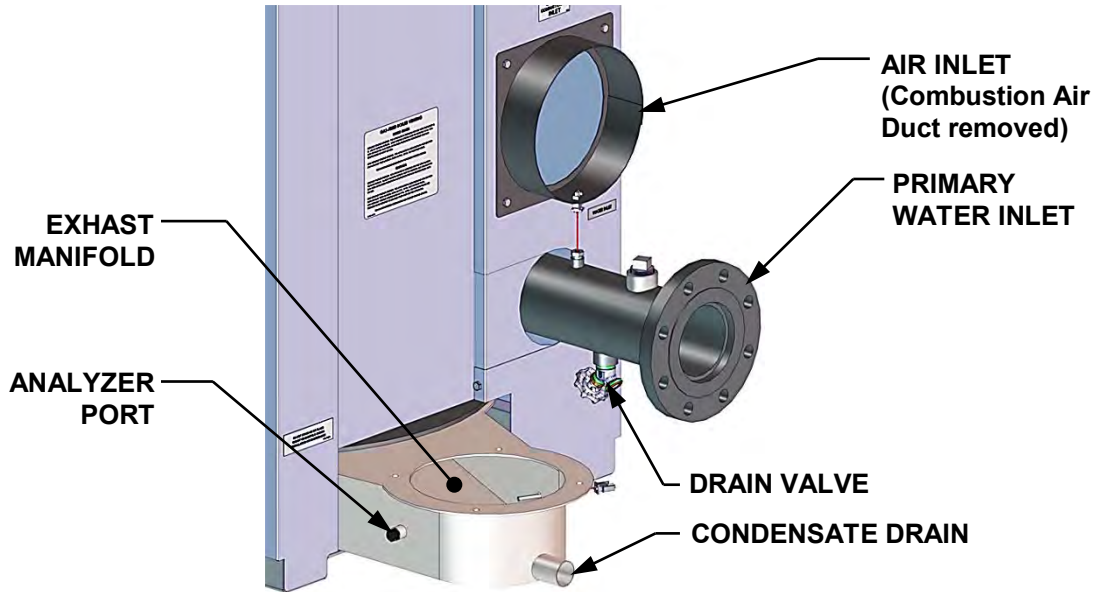

Figure 6-4: Boiler Rear View Showing Air Inlet Location
2. For units that get combustion air from a Combustion Air Duct, remove that duct, located on the rear panel of the boiler (see Figure 6.4, below). For units that have an air filter in place of a Combustion Air Duct (not shown), remove the air filter.